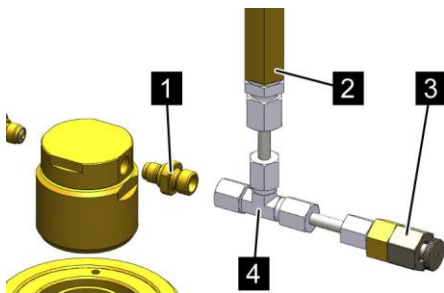

Fig. 70: Mounting the pressure relief valve
2. ➤ Install the adapter (Fig. 70/1) on the outlet of the last pneumatic release device in the pilot line.
3. ➤ Connect the tee (Fig. 70/4) to the adapter in such a manner that the "malfunction pressure safety device" (Fig. 70/2) can be screwed on from above and the pressure relief valve (Fig. 70/3) can be screwed onto it horizontally.